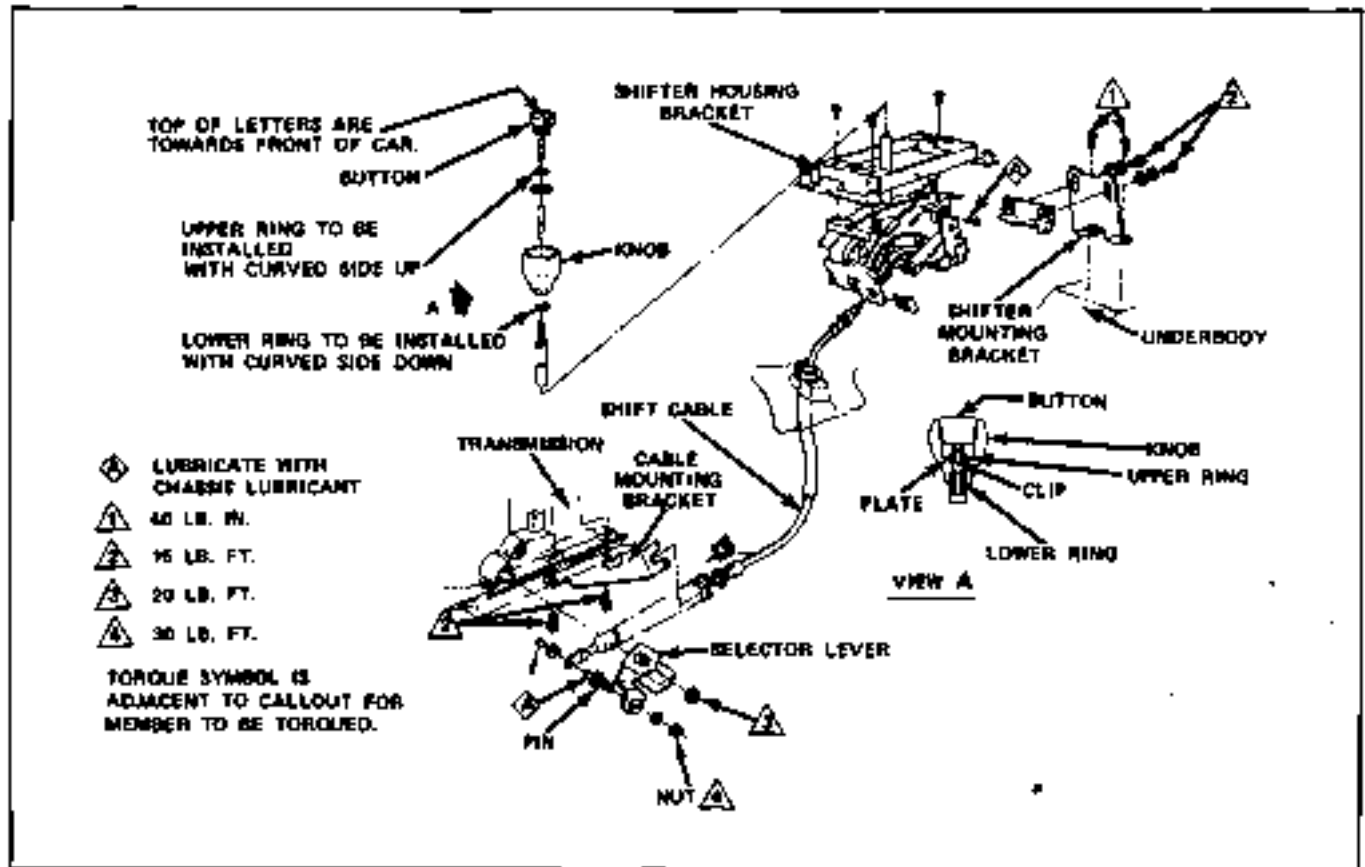

Fig. 7E-6 Console Shift Controls - Tempest and Grand Prix
2. Compress regulator boost valve bushing against pressure regulator spring and remove snap ring, using snap ring pliers and tool as shown in Fig. 7E-8.